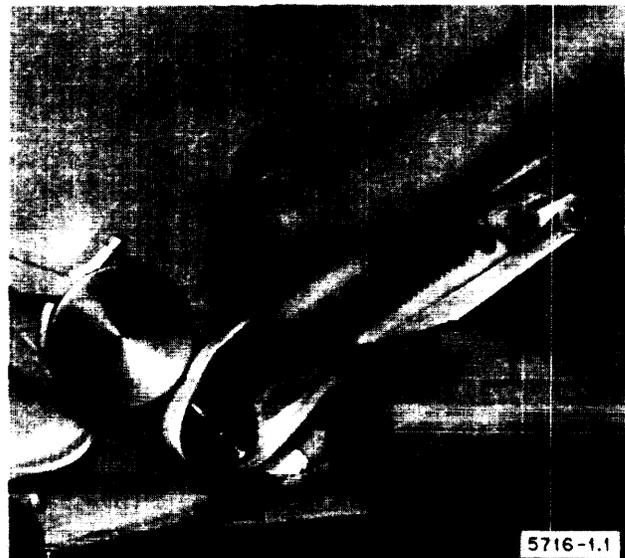

Figure 5-7. Changing Tape Wiper
- (1) Grasp cloth belt as shown in figure 5-7, and pull both sides in direction shown.
- (2) Release belt from drive roller, allow tension spring to retract, and remove belt from wiper assembly.
- (3) Thread clean belt on tension rollers, stretch tension spring as in step 1, and slip new belt